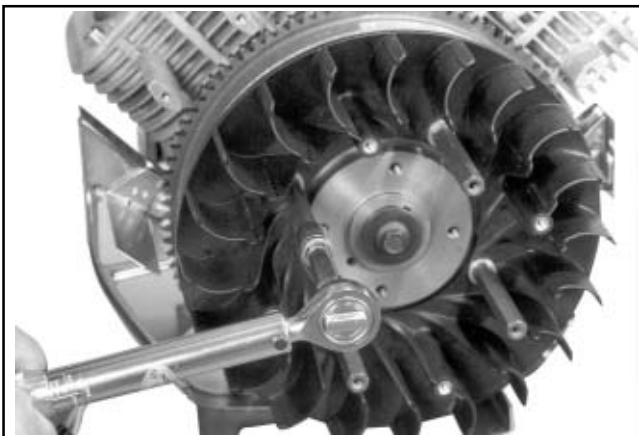

Figure 11-33. Torquing Supports for Metal Screen (Some Models).
2. Tighten the supports with a torque wrench to **9.9 N-m (88 in. lb.)**. See Figure 11-33. The grass screen will be installed to the supports after the blower housing is in place.